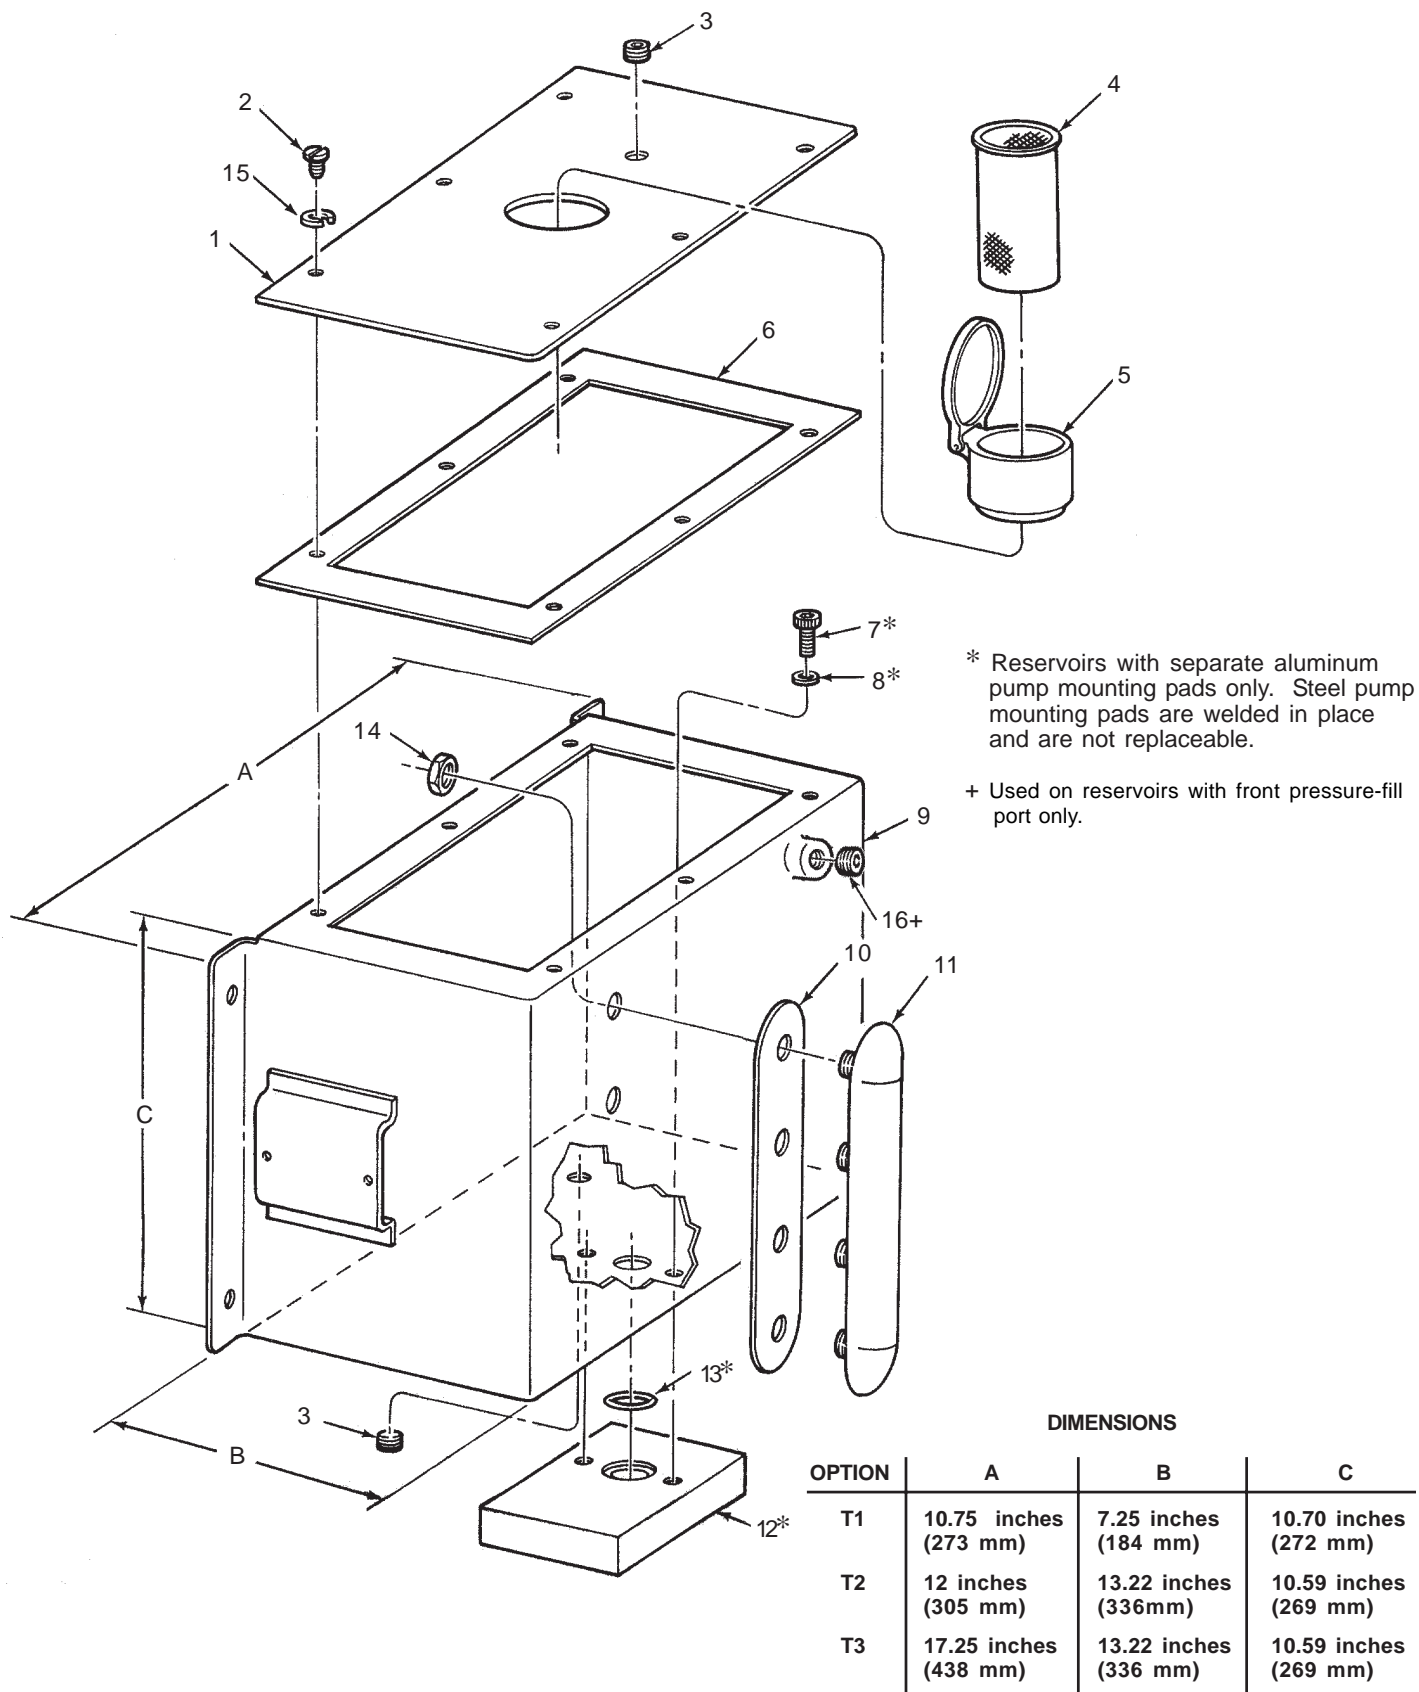

Figure 2-3. Oil Tank - Exploded View
2.6.1 General. Maintenance tips, disassembly and assembly procedures for oil tanks are discussed in Paragraphs 2.6.2, 2.6.3 and 2.6.4. An exploded view of a typical oil tank is shown in Figure 2-3 and should be referred to during the discussion.
- a. Visually check for oil leakage between the tank (9, Figure 2-3), the pump mounting pad (12) and the level sight glass (11). Leakage in either of these areas indicates the components are loose or that gasket (10) or o-ring (13) is defective. The cover (1) will need to be removed to either tighten the components or replace defective seals.
- b. Visually check fill screen (4) to make sure it is not clogged. If necessary, remove the screen for cleaning.
2.6.3 Disassembly of Oil Tanks. Figure 2-3 shows a typical oil tank but does not include other Modu-Flo components which may be mounted to the tank. These components include the manifold, pump, level switches and blow-out switches. Disassembly of tank may require that some of these components be removed. The manifold and pump do not normally require removal, but may be removed if desired. The level and blowout switches may or may not require removal, depending on the level of disassembly required. The electrical connections to the switches should be disconnected in order to remove various parts without restriction of movement by the electrical cord. The removal of these components is explained in other sections of the manual. Refer to the table of contents to find where these components are discussed.
- a. Remove pipe plug (3, Figure 2-3) from base of tank weldment (9) and allow oil to drain into bucket or similar container. Properly dispose of emptied oil.
- b. Remove self-threading screws (2) attaching cover (1) to tank weldment (9) and remove cover and cover gasket (6).
- c. Remove fill screen (4) from fill cup (5) and clean screen.
- d. Remove two screws (7) and aluminum gaskets (8) to release pump mounting pad (12) from tank weldment (9). Remove and discard o-ring (13) from pump mounting pad (12).
- a. Install one aluminum gasket (8, Figure 2-3) on each screw (7) and insert threads of screws through holes in bottom of tank weldment (9).
- b. Install new o-ring (13) in pump mounting pad (12) and align threaded holes in pump mounting pad with screws (7) protruding from bottom of tank weldment (9). Thread screws (7) into pump mounting pad (12) until pump mounting pad is snug against bottom of tank weldment (9). Torque screws (7) to 10 ft lbs.
- c. Position new gasket (10) on sight glass (11) and install sight glass on tank weldment (9). Secure sight glass (11) with four self-threading nuts (14).
- d. Install screen (4) into fill cup (5).
- e. Position cover gasket (6) and cover (1) on tank weldment (9) and secure with self-threading screws (2).
- f. Install pipe plug (3) in bottom of tank weldment (9).
2.6.5 Oil Tank Parts List. Table 2-4 identifies the parts indexed in Figure 2-3.